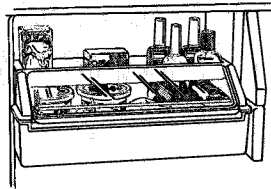

Figure 17
- a. To remove, open lid, place hand below center of upper shelf, lift straight up. See Figure 17.